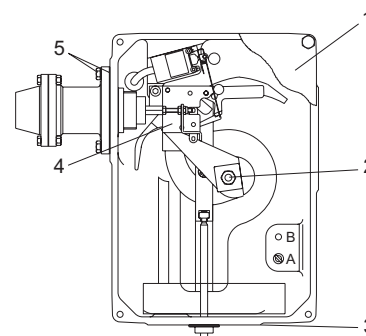

Figure 2. Mechanism Box for one BMS
- The position of the travel stop (fig. 2) depends on the type of equipment and its size, positions A or B according to the max. travel of the valve: